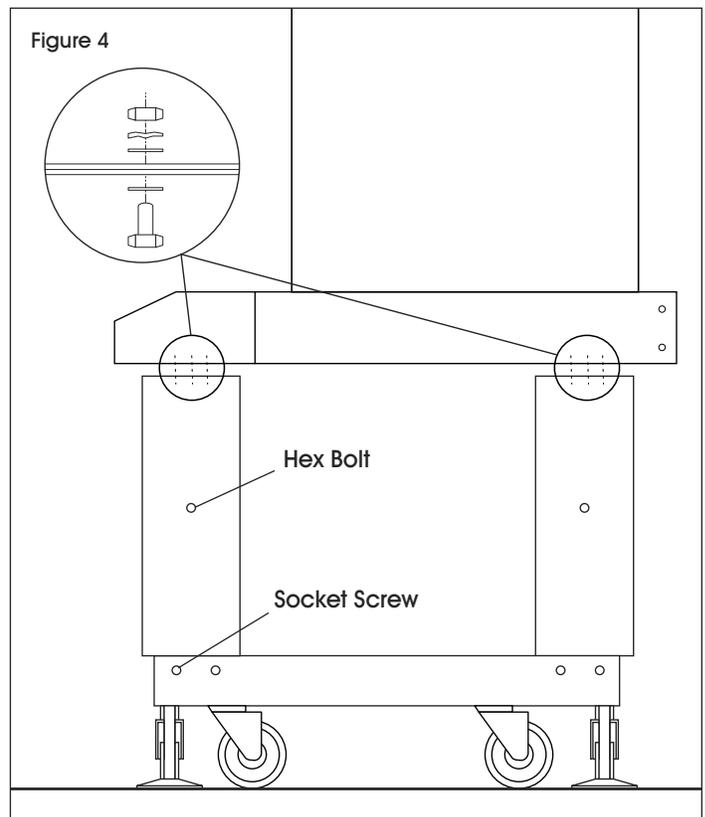

Figure 4
5. Turn the leg kit right side up. Place conveyor on top of the leg kit assembly. Insert hex bolts through the conveyor and leg kit (two bolts per corner). Tighten bolts with flat washers, lock washers and nuts. (See Figure 4)